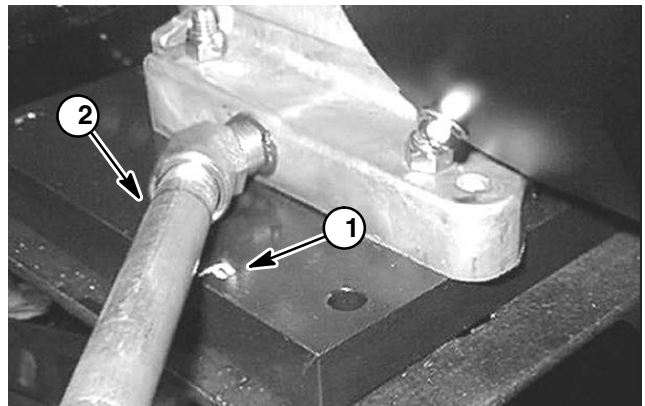

Figure 9
- B. Install engine flywheel pulley with the pulley hub toward engine. Apply Loctite #242 (or equivalent) to two (2) set screws. Tighten set screws to retain pulley.
- C. Slide engine PTO pulley onto crankshaft. Apply Loctite #242 (or equivalent) to cap screw and secure pulley to crankshaft with cap screw, lock washer and two (2) flat washers.
4. If engine was removed from engine mount plate, position engine on mount plate so the letter F on the mount plate is up & on the oil drain tube side of the engine (Fig. 9). Secure engine to mount plate with four (4) cap screws (item 44) and lock nuts. NOTE: Cap screw closest to flywheel on the starter motor side of the engine uses two (2) lock washers (item 45).